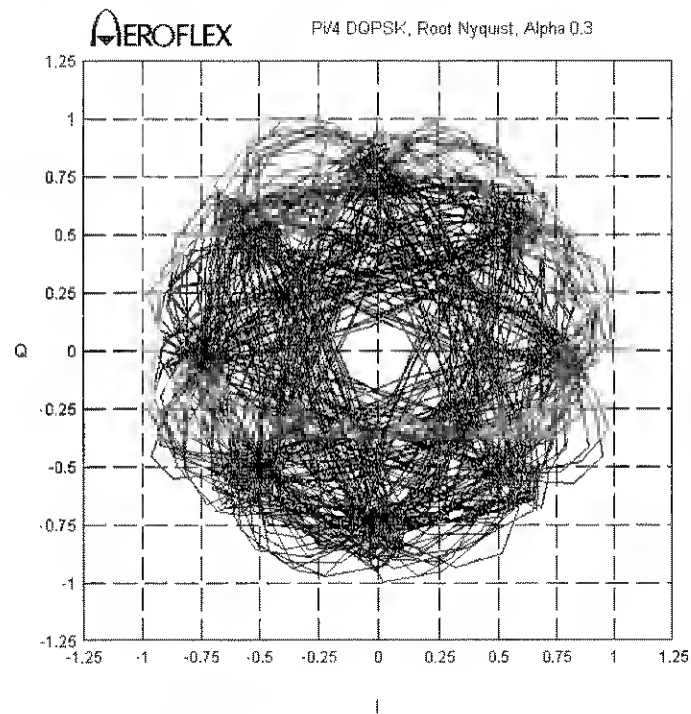

Fig. 6-11 Oscilloscope display showing $\pi/4$ DQPSK
- 7 Set both channels of the oscilloscope to 0.2 V/div and the timebase to X-Y. The oscilloscope's display should appear similar to Fig. 6-11.